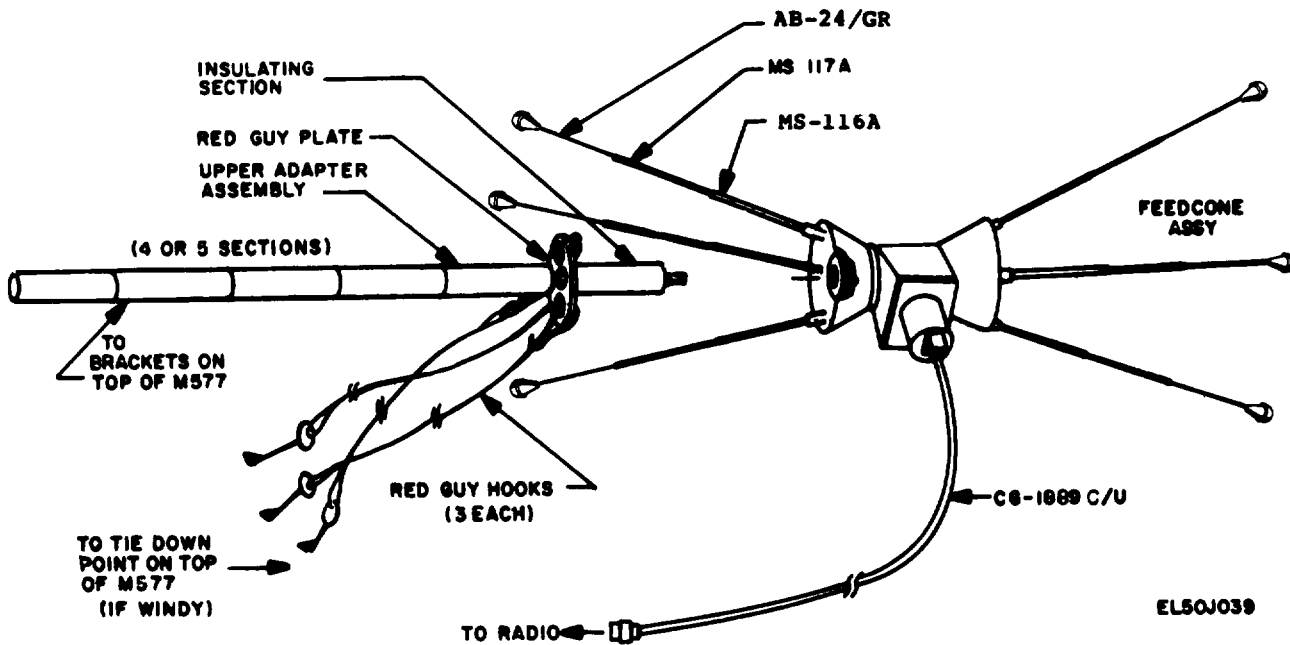

Figure 2-23. Assembling OE-254/GRC for use on M577 command post.
- (1) Assemble the antenna mast as shown in figure 2-23. Only three guy ropes are required. Tape the CG-1889C/U once or twice to the mast.